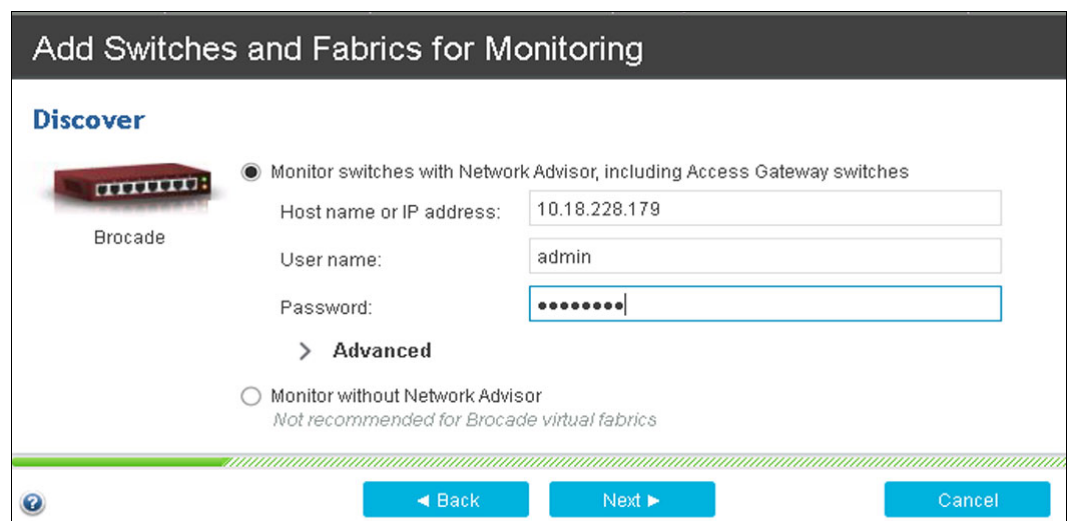

Figure 6-7 SMI agent connection information
3. Select **Monitor with Network Advisor** as shown in Figure 6-7 and complete the connection information. Depending on the SMI agent connection parameters that you entered during the IBM Network Advisor installation, you might need to change the default communication protocol and port.